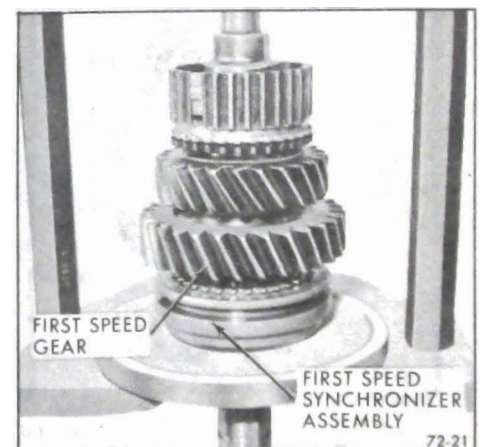

Figure 72-21 - Installing First Speed Gear
2. Install first speed gear and synchronizer on mainshaft. See Figure 72-21. Using ram press and Press Plate J-8609, press first speed synchronizer assembly (with identification ring toward rear of transmission) onto mainshaft. Install retaining snap ring.